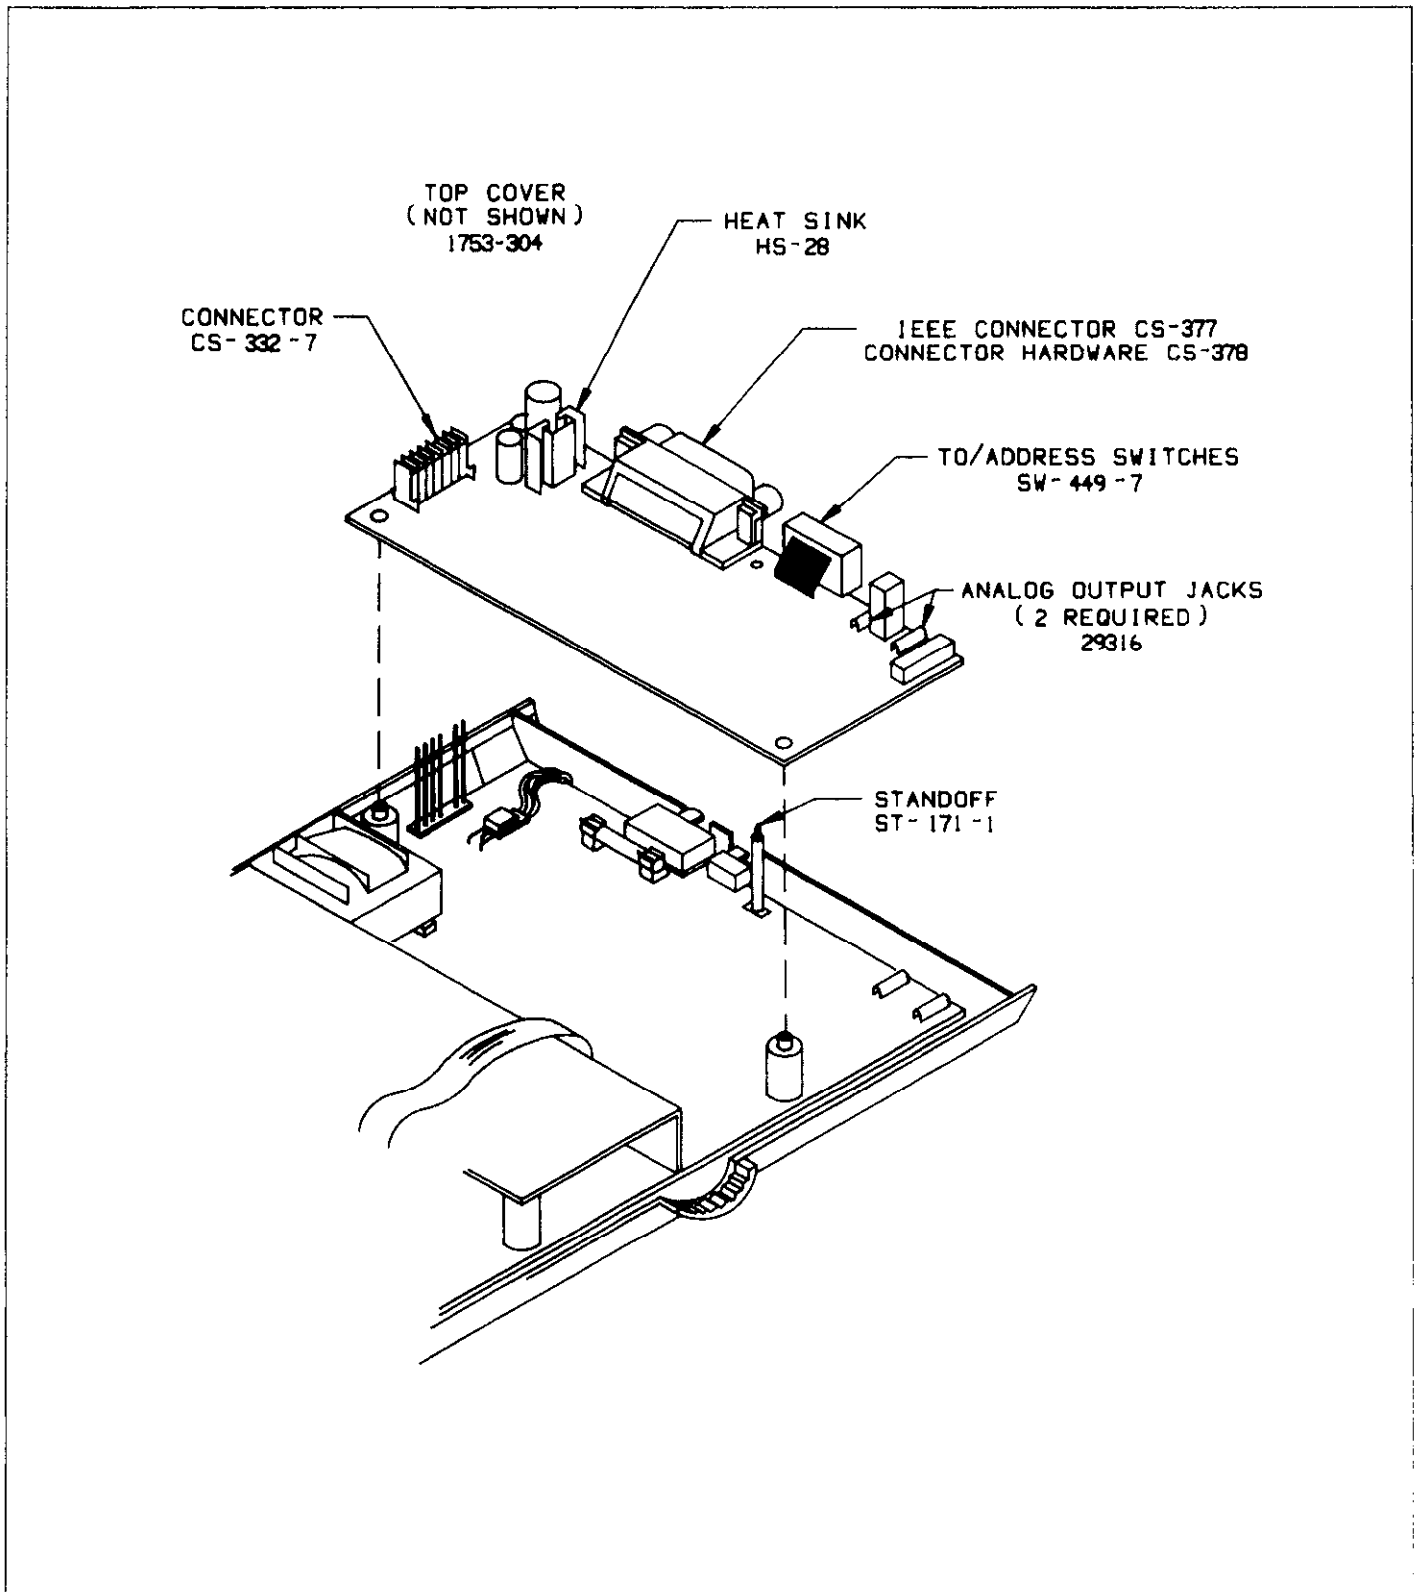

Figure 7-1. Model 5802 Installation
The Model 5802 is field installable. To install the interface into the Model 580 use the following procedure and refer to Figure 7-1.
2. Install the rear standoff (ST-171-1) by positioning it over the hole on PC board as shown in Figure 7-1, and pressing firmly until it snaps securely into the board.